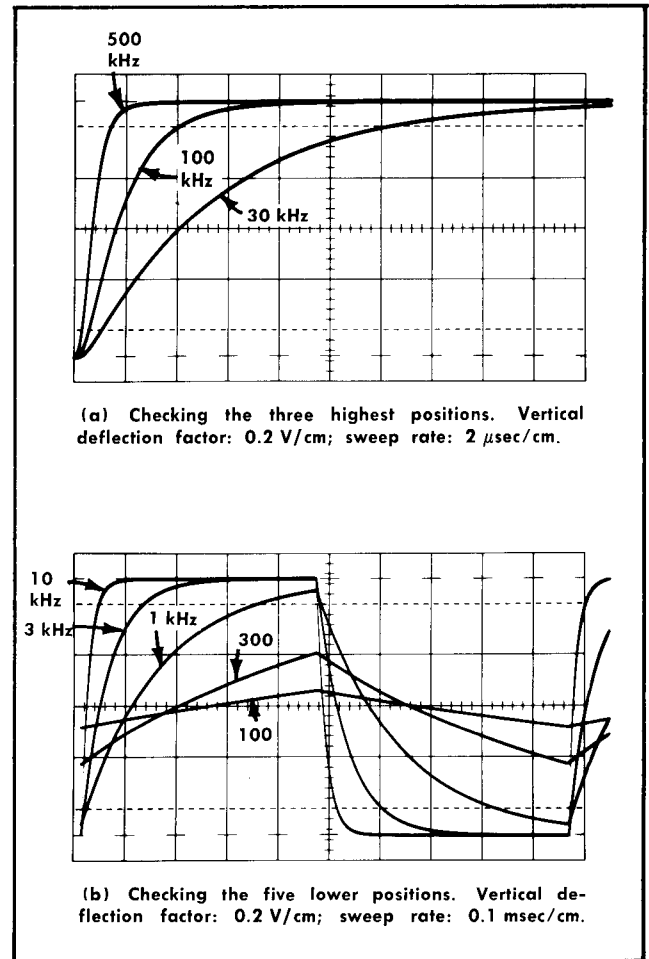

Fig. 5-8. Multiple exposure photographs showing effect of HIGH FREQ 3 dB POINT switch on a 1-kHz calibrator signal. LOW FREQ 3 dB POINT switch is set to DC.
a. Requirement—Roll off in square-wave response should correspond to Fig. 5-8.
e. Check—Roll off in square-wave response for all positions of the HIGH FREQ 3 dB POINT switch. Use Fig. 5-8 as a guide.